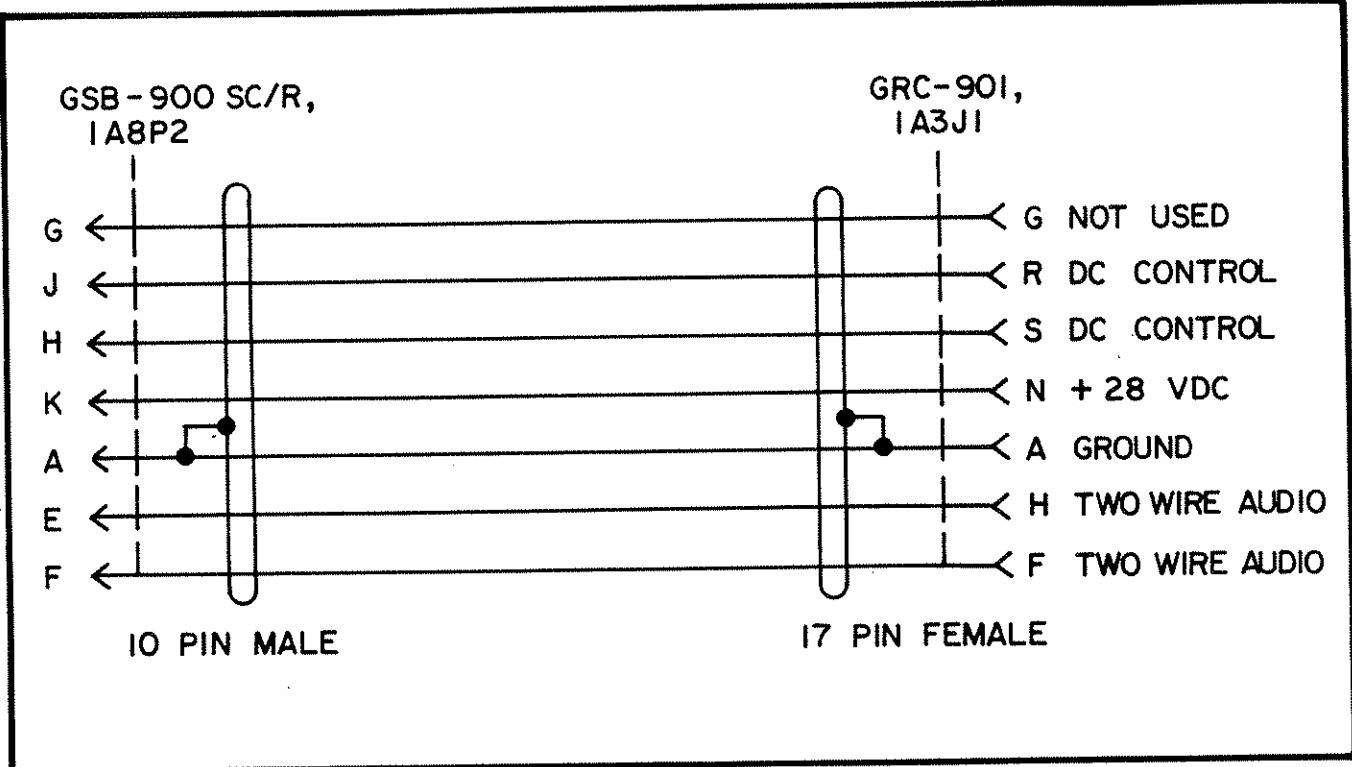

Figure 2.7 GSB-900SC/R DC Cable
- b. GRC-901: See Figure 2.7. Connect the DC control cable from 1A3P1 power to GSB-900SC/R 1A8J2 Audio.